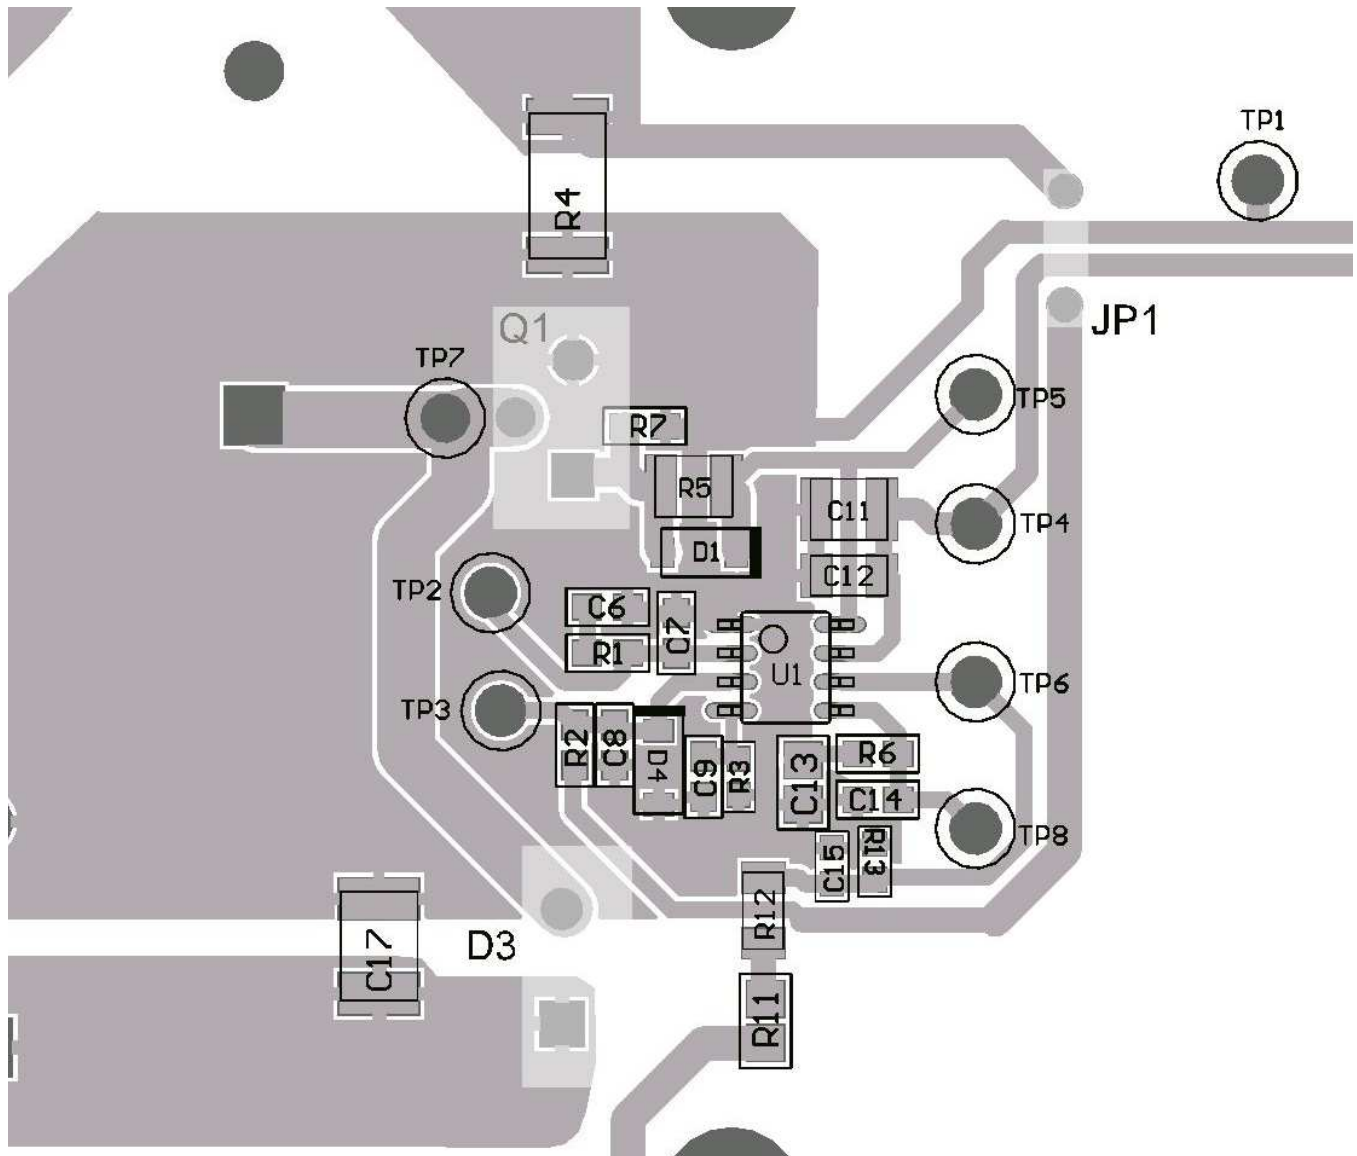

图 41. Recommended Layout for UCC28180
As with all PWM controllers, the effectiveness of the filter capacitors on the signal pins depends upon the integrity of the ground return. Separating the high di/dt induced noise on the power ground from the low current quiet signal ground is required for adequate noise immunity. Even with a signal layer PCB design, the pin out of the UCC28180 is ideally suited to minimize noise on the small signal traces. As shown in 图 41, the capacitors on VSENSE, VCOMP, ISENSE, ICOMP, and FREQ (if used) must all be returned directly to the portion of the ground plane that is the quiet signal GND and not in high-current return path of the converter, shown as power GND. The trace from the FREQ pin to the frequency programming resistor should be as short as possible. It is recommended that the compensation components on ICOMP and VCOMP are located as close as possible to the UCC28180. Placement of these components should take precedence, paying close attention to keeping their traces away from high noise areas. The bypass capacitors on VCC must be located physically close the VCC and GND pins of the UCC28180 but should not be in the immediate path of the signal return.
Other layout considerations should include keeping the switch node as short as possible, with a wide trace to reduce induced ringing caused by parasitic inductance. Every effort should be made to avoid noise from the switch node from corrupting the small signal traces with adequate clearance and ground shielding. As some compromises must be made due to limitation of PCB layers or space constraints, traces that must be made long, such as the signal from the current sense resistor shown in 图 41, should be as wide as possible, avoid long narrow traces.
**表 2. Layout Component Description for 图 41**